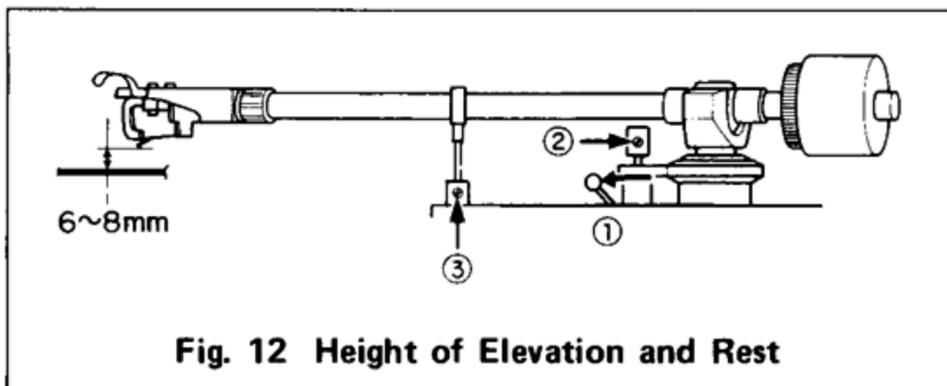

Fig. 12 Height of Elevation and Rest
1. **Correct height of arm elevation and arm rest is important.** When a cartridge or head shell is changed, it is important to check the following before operating the turntable. During record play, the tonearm must never touch the arm elevation. Also stylus must never touch the record surface when the tonearm swings horizontally during automatic action. If corrective measures are found necessary, proceed as follows. Set the pause lever to ∇ position. Adjust space between stylus point and record surface to approximately 6 mm with the locking bolt ② as shown in Fig. 12. Next adjust the height of the arm rest to cause a gap of about 1mm between the tonearm and arm elevation with the bolt ③.